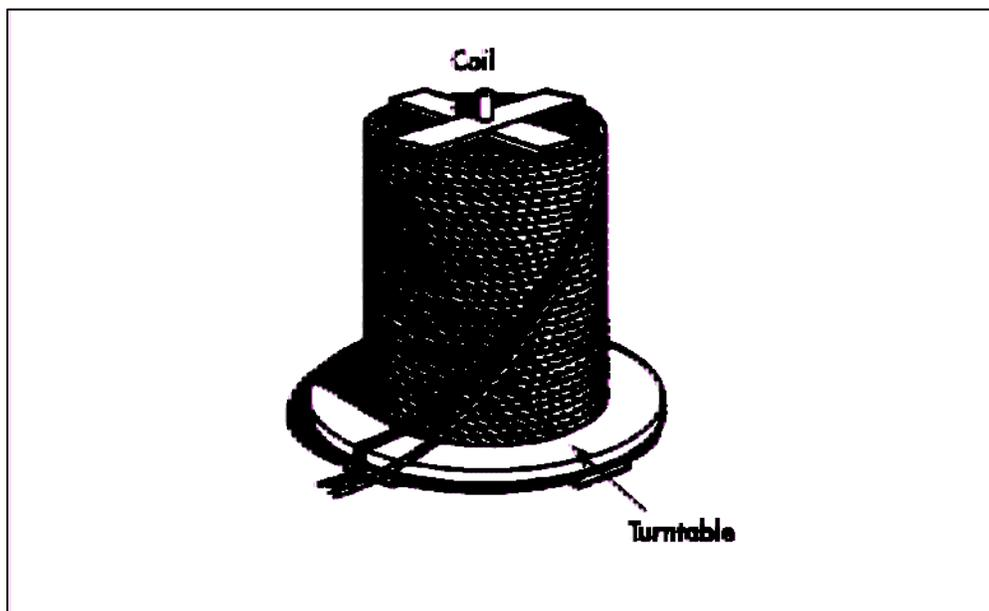

Figure 5.15-6 - Uncoiling a New Wire Rope
- (1) New wire ropes are supplied either in machine-wound coils or on cable drums (reels). They must be taken off the coils or drums in the correct manner or kinks will quickly develop. A small coil can be rolled along the deck, but if space does not permit, or the rope is heavy, place the coil on a turntable and lash down two strong battens crosswise on the top of the coil (Fig 5.15-6). This will prevent the rope from springing up over the top of the coil and kinking. Then cut the stops, and haul the rope off the coil as it rotates on the turntable.